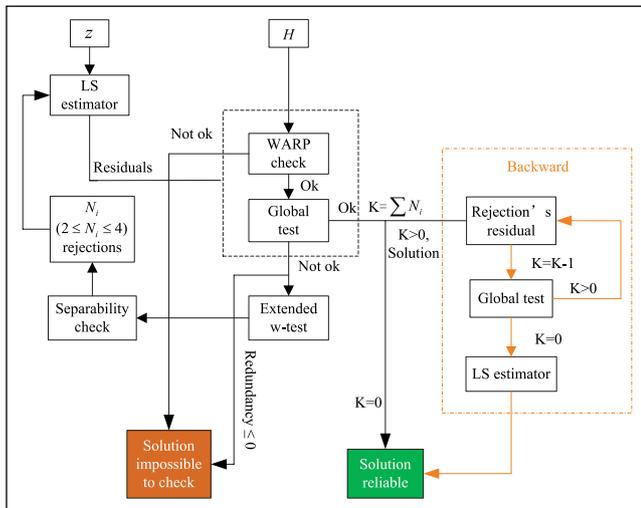

Figure 1. Scheme of the extended RAIM technique for multiple outliers
where ΔY_{free} is the residual vector of the initial outlier-free constellation obtained by the forward process. The test statistic is calculated according to (11) and (4) and the global test is performed. If the statistic does not exceed the global threshold, this flagged outlier will be recovered as a good measurement. After all the flagged outliers are confirmed, the final outlier-free constellation is obtained and the LS estimation is performed as the final fixed solution of this epoch. The scheme of the extended technique is shown in Fig. 1.